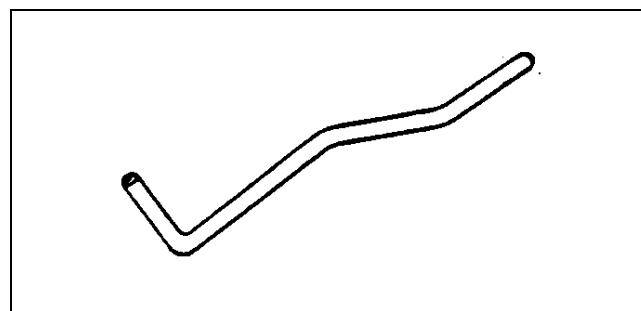

Figure 22
- TOR70153N Flywheel TDC Locator Pin (Fig. 22)